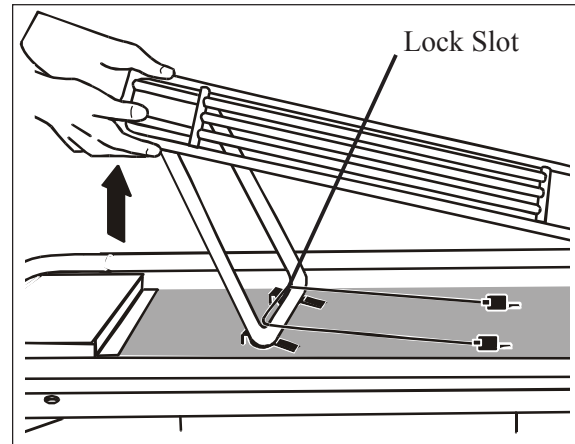

Figure 7 - Raising the Shock Frame
2. Lift shock frame until support bar automatically engages in lock slot (Figure 7).